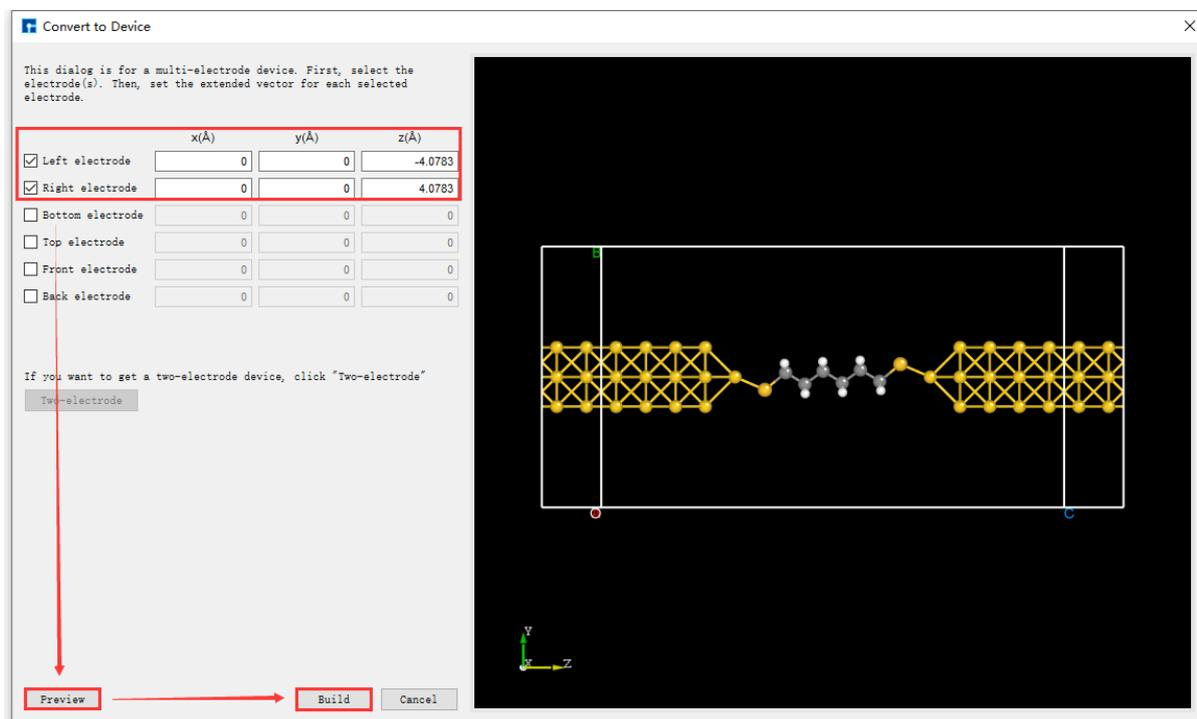

fig. 4.61: Convert to Device Interface
- (3) Click the *Convert to Device* shortcut icon. The *Convert to Device* interface will pop up, as shown in fig. 4.61. Select the parts in the red boxes, then click *Preview* to preview the